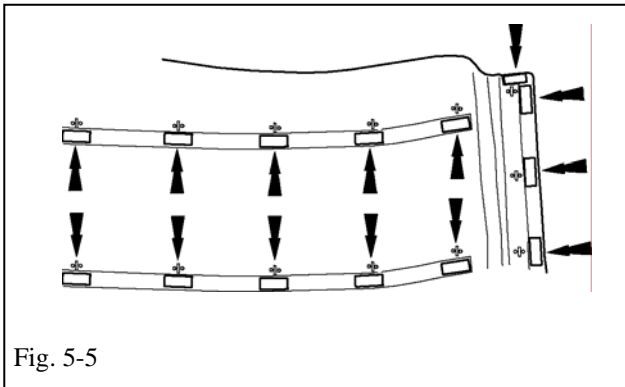

Fig. 5-5
- (e) Attach 1”X 2” fasteners to the back sides of the BedRug sidewalls as marked by locators. Do not remove adhesive protective film at this time (Fig 5-5)